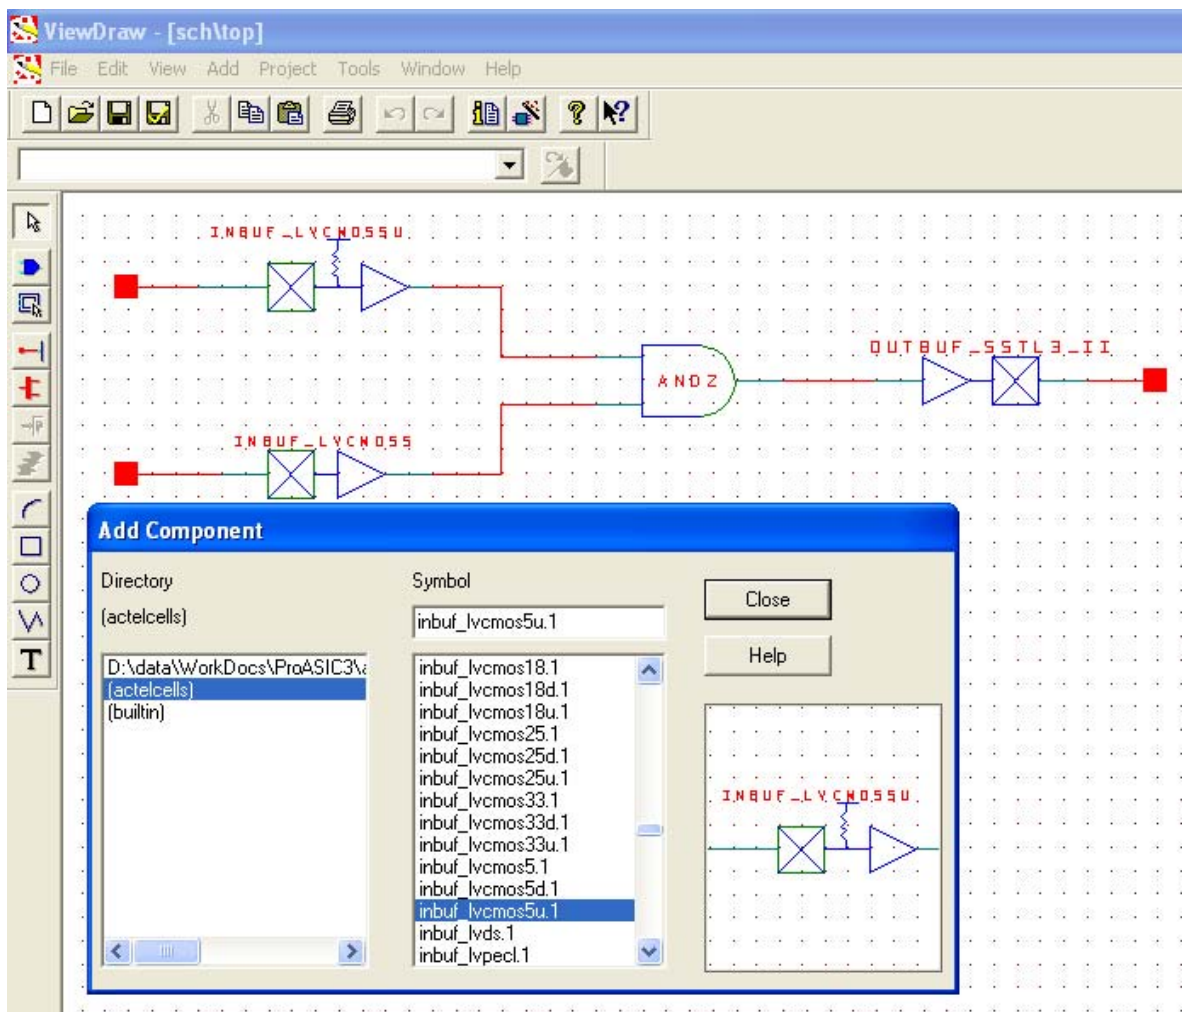

Figure 8-5 • I/O Buffer Schematic Cell Usage
5. Enter a name for the macro. Click **OK**. The core will be generated and saved to the appropriate location within the project files (Figure 8-5 on page 219).
Libero SoC software includes the ViewDraw schematic entry tool. Using ViewDraw, the user can insert any supported I/O buffer cell in the top-level schematic. Figure 8-5 shows a top-level schematic with different I/O buffer cells. When synthesized, the netlist will contain the same I/O macro.